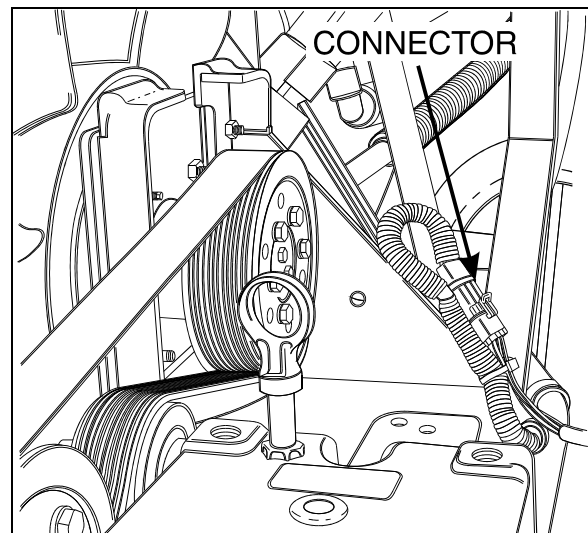

FIGURE 16: ENGINE COMPARTMENT
10. Disconnect the electric fan-clutch connector, close to the water pump (Fig. 16).